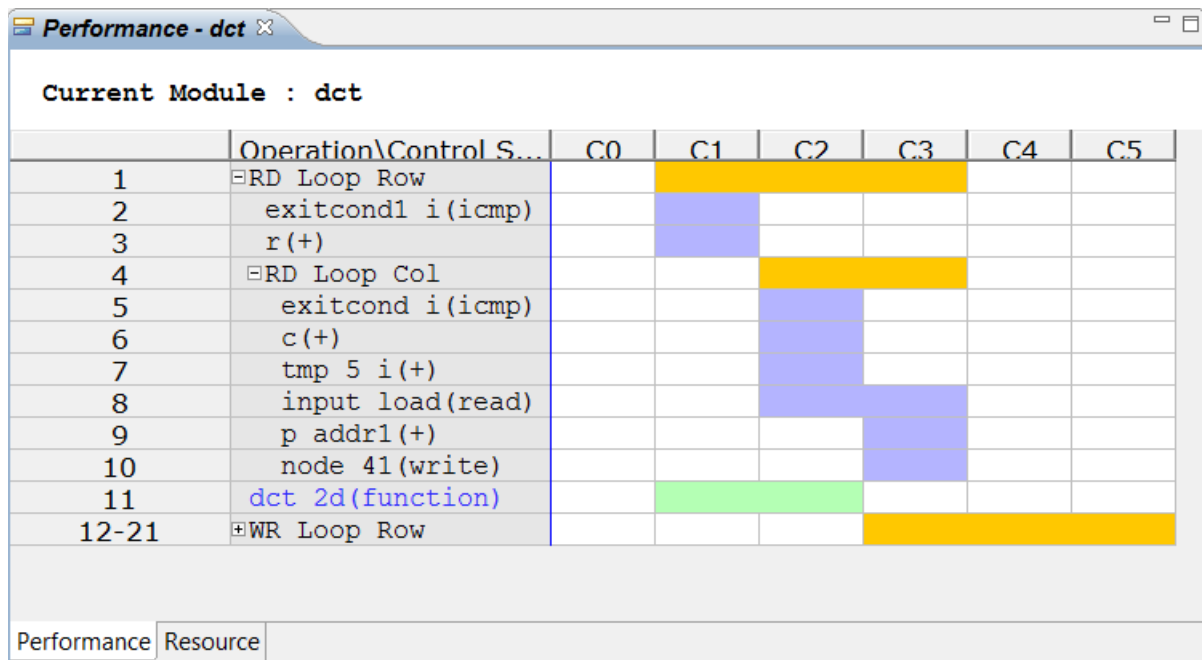

Figure 114: Expanded View of RD_Loop_Row
2. Click loop **RD_Loop_Row** and sub-loop **RD_Loop_Col** to fully expand the loop hierarchy (**Figure 114**).